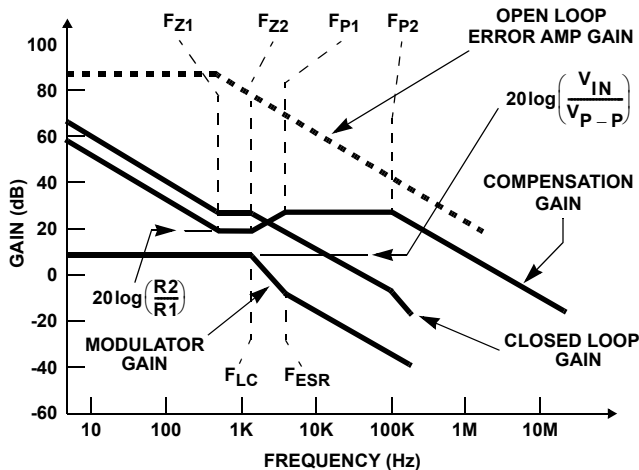

FIGURE 12. ASYMPTOTIC BODE PLOT OF CONVERTER GAIN
Figure 12 shows an asymptotic plot of the DC-DC converter's gain vs. frequency. The actual Modulator Gain has a high gain peak dependent on the quality factor (Q) of the output filter, which is not shown in Figure 12. Using the above guidelines should yield a Compensation Gain similar to the curve plotted. The open loop error amplifier gain bounds the compensation gain. Check the compensation gain at F_{P2} with the capabilities of the error amplifier. The Closed Loop Gain is constructed on the log-log graph of Figure 12 by adding the Modulator Gain (in dB) to the Compensation Gain (in dB). This is equivalent to multiplying the modulator transfer function to the compensation transfer function and plotting the gain.